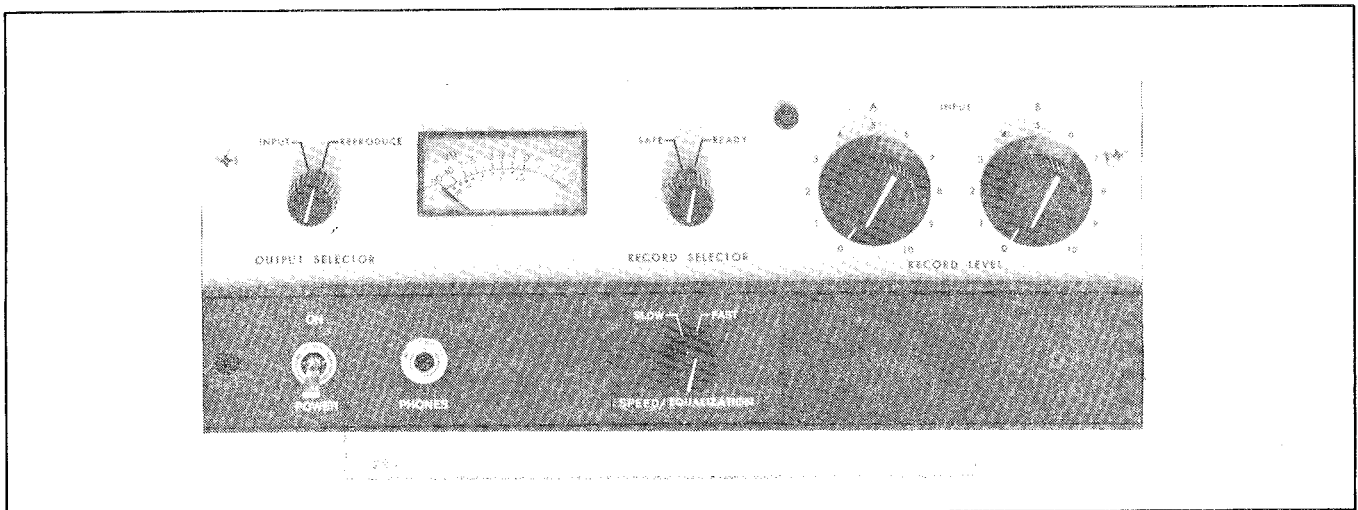

Figure 3-2. Electronic Assembly Controls
3.5 Operating controls and indicators for the electronic assembly are shown in Figure 3-2 and described in Table 3-2.